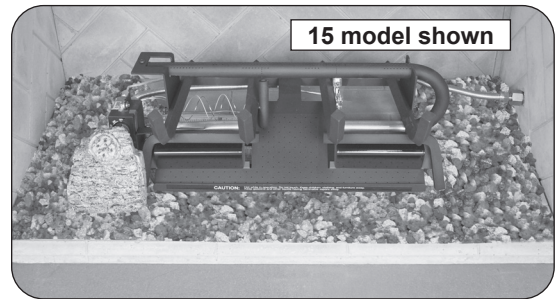

Fig. 19-1 Place lava granules
1. Spread the supplied lava granules on the floor of the fireplace; around the front and sides of the burner system (see Fig. 19-1). The lava granules may be placed around the remote receiver (as applicable). Leave the front of the receiver clear for control access.